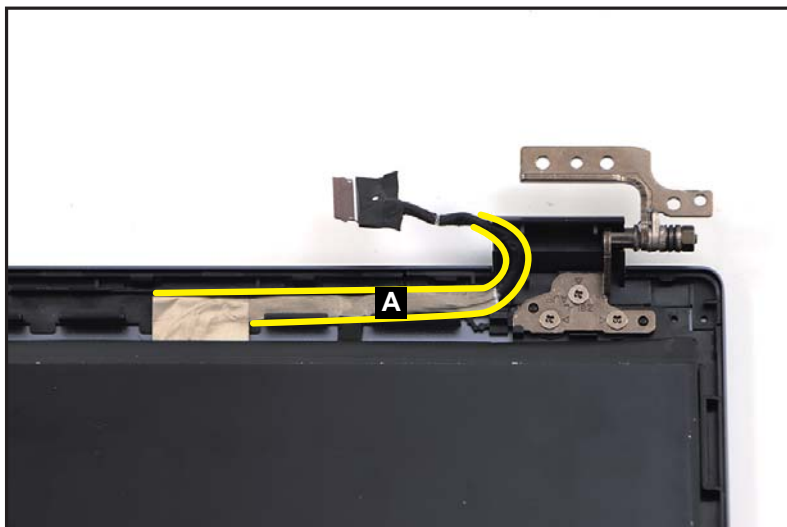

Figure 1-56. LCD Panel Removal
1. Unroute the eDP cable (A) from the bottom side of the cable guides on the LCD cover as shown in Figure 1-56. Carefully detach the cable from its underneath adhesive if necessary.